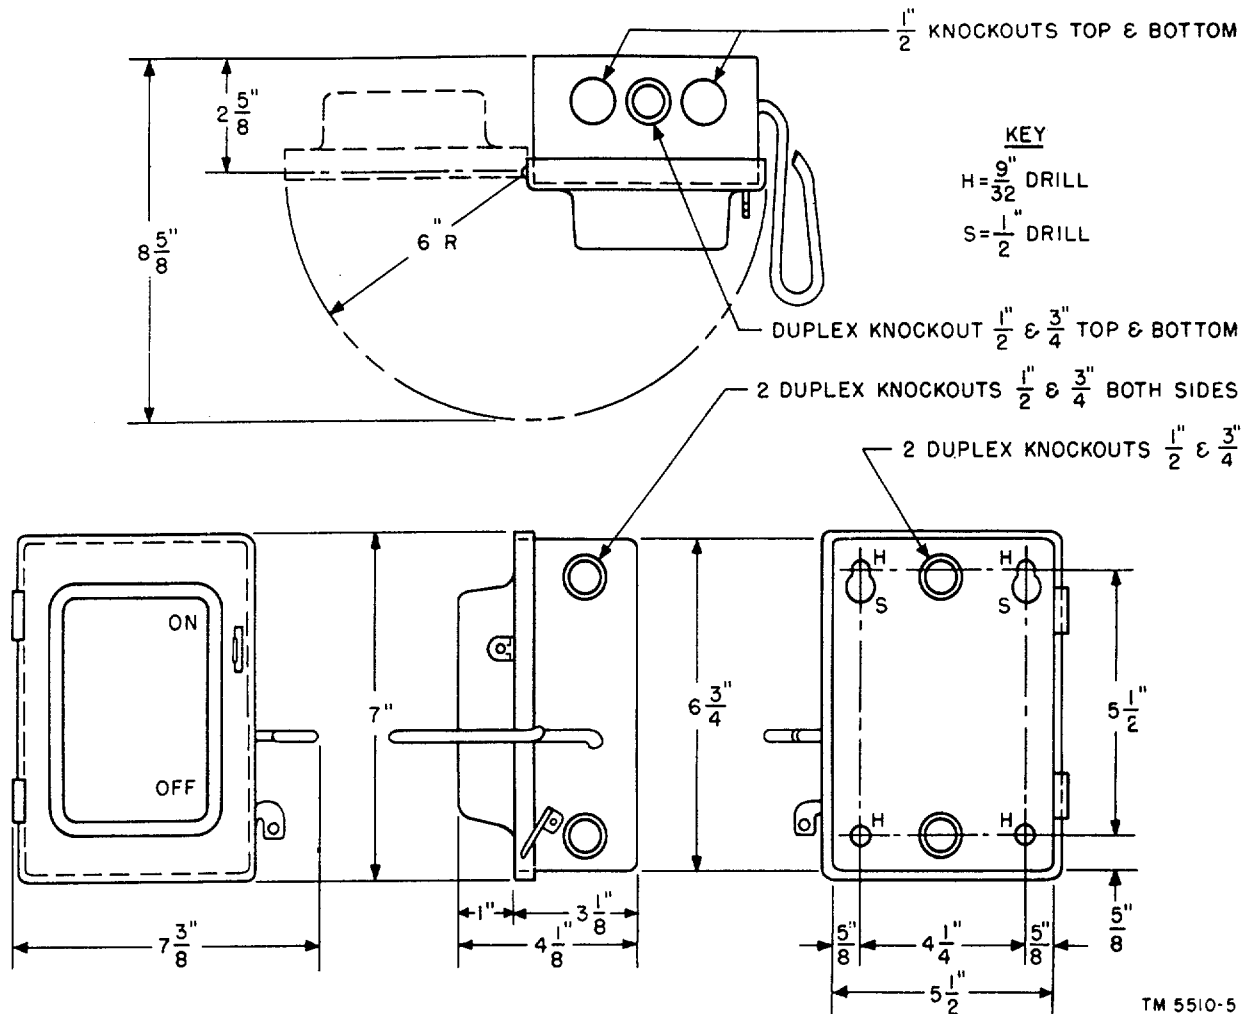

Figure 37. Switch box, dimensional drawing.
- Drill four 1/2-inch holes in the bulkhead (fig. 37). Locate the lower pair of holes approximately 5 feet above the deck level.